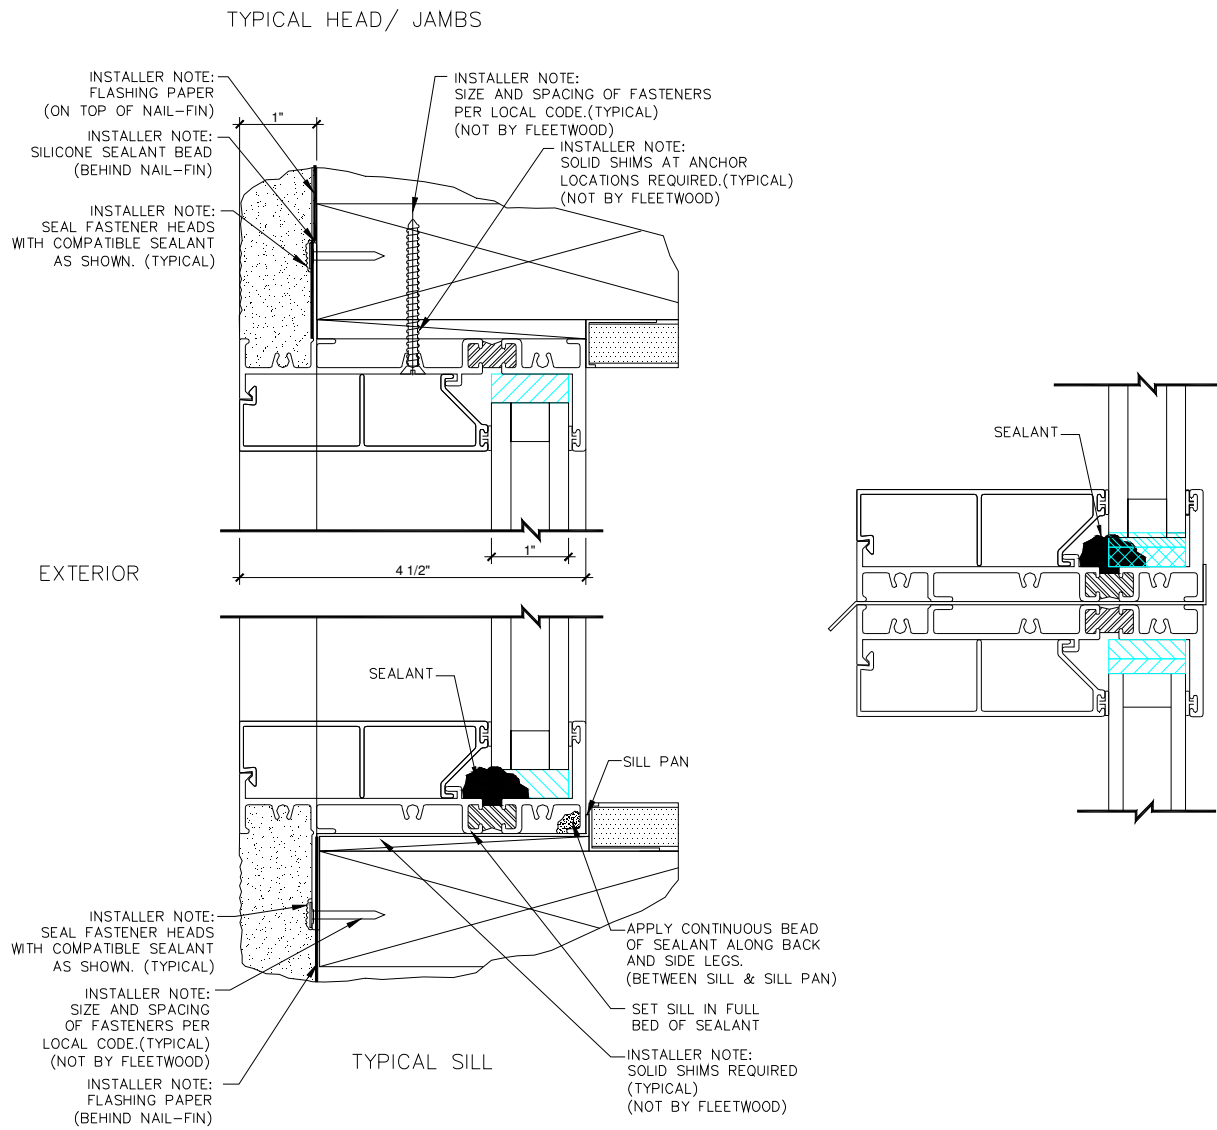

Figure 10:
4. After the frame is assembled, seal inside of all four corners, join and above the thermal break (Figure 10) with a thin attractive bead of self leveling compatible sealant
4. Insert the frame into the opening and set the sill in a full bed of sealant (Figure 10). Cross-measure and adjust as necessary to achieve a plumb square and level condition, as well as an even reveal around the framed opening. Shim with non-porous, non-absorbent, inorganic shims where needed. Seal all fastener heads with compatible sealant. (Only drill holes through Sill as required for design load)